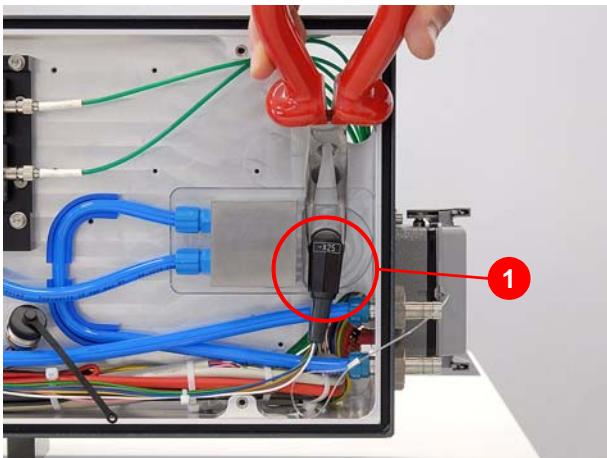

Figure 7.42 Shutter module connecting plug
2. Remove the connecting plug (-X25) of the shutter module (1) (Figure 7.42) on the diode side of the laser head.